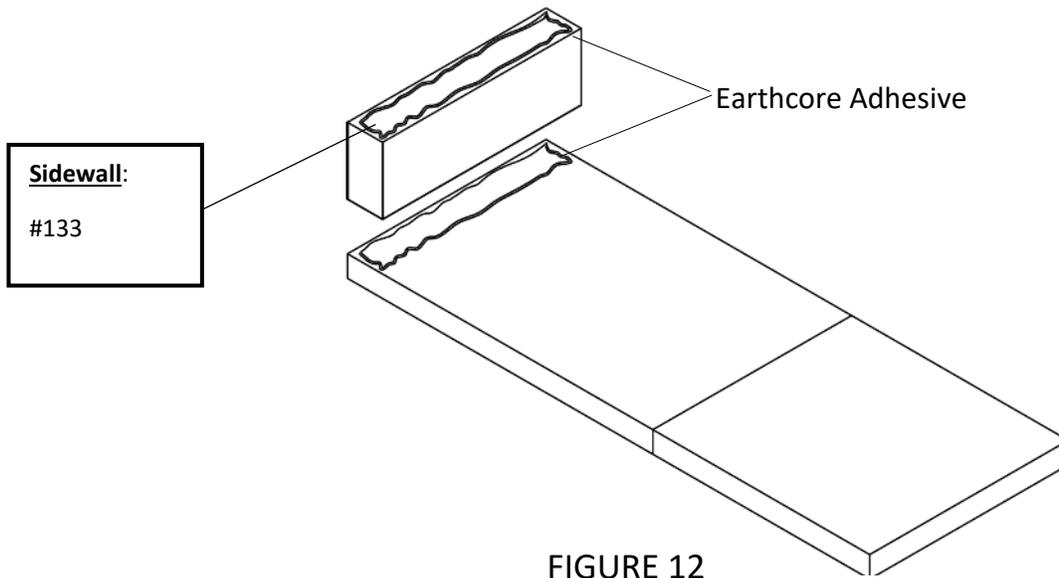

FIGURE 12
- 2) Set the first course of the firebox side walls into place (**Figure 12**).